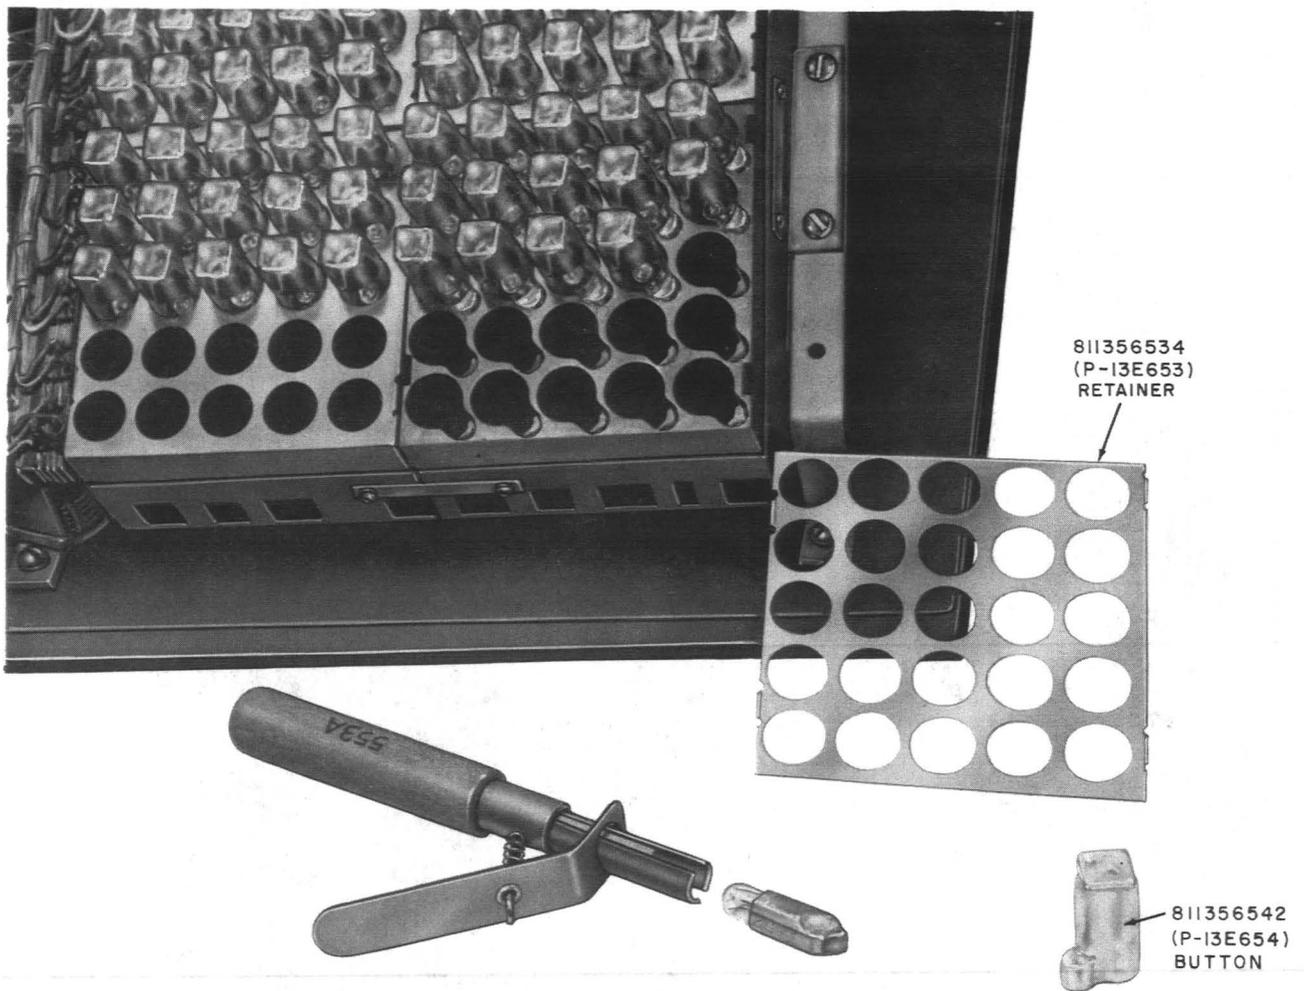

Fig. 10—DSS Key Block Assembly
3.08 To replace a lamp or button (Fig. 10):